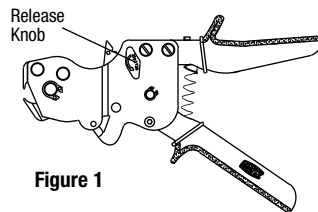
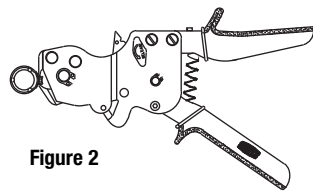

Figure 1
Figure 2
- Open the QCRTQCRM tool by turning the Release Knob counterclockwise (Figure 1). Place the jaws completely over the QickClamp pinch ear. With the tool at a 90° angle to the tube (Figure 2), close the tool by squeezing the handles together repeatedly until the LED light comes on. This may take 6-8 squeezes (Figure 3). **Important! Be sure the tool jaws cover the entire ear of the QickClamp before crimping. Failure to do so will result in an improper crimp and may avoid the warranty.**